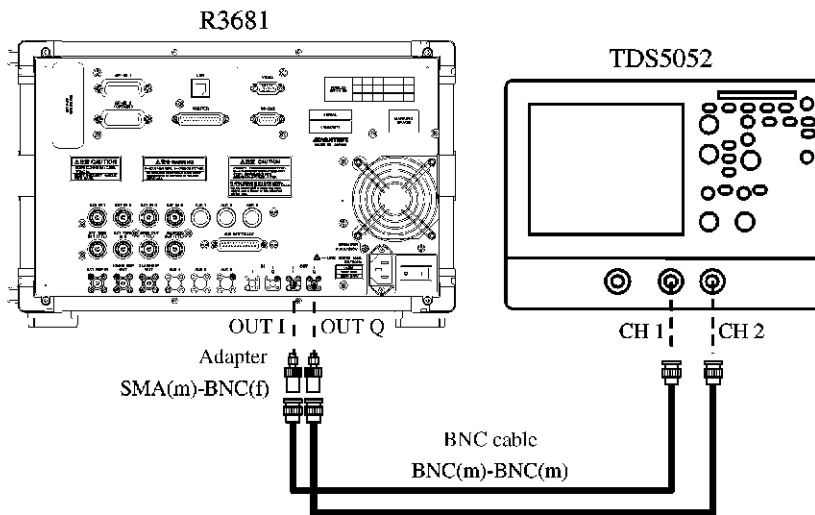

Figure 8-8 Internal Filter Verification Connection Diagram
2. Connect the instruments as shown in Figure 8-8.